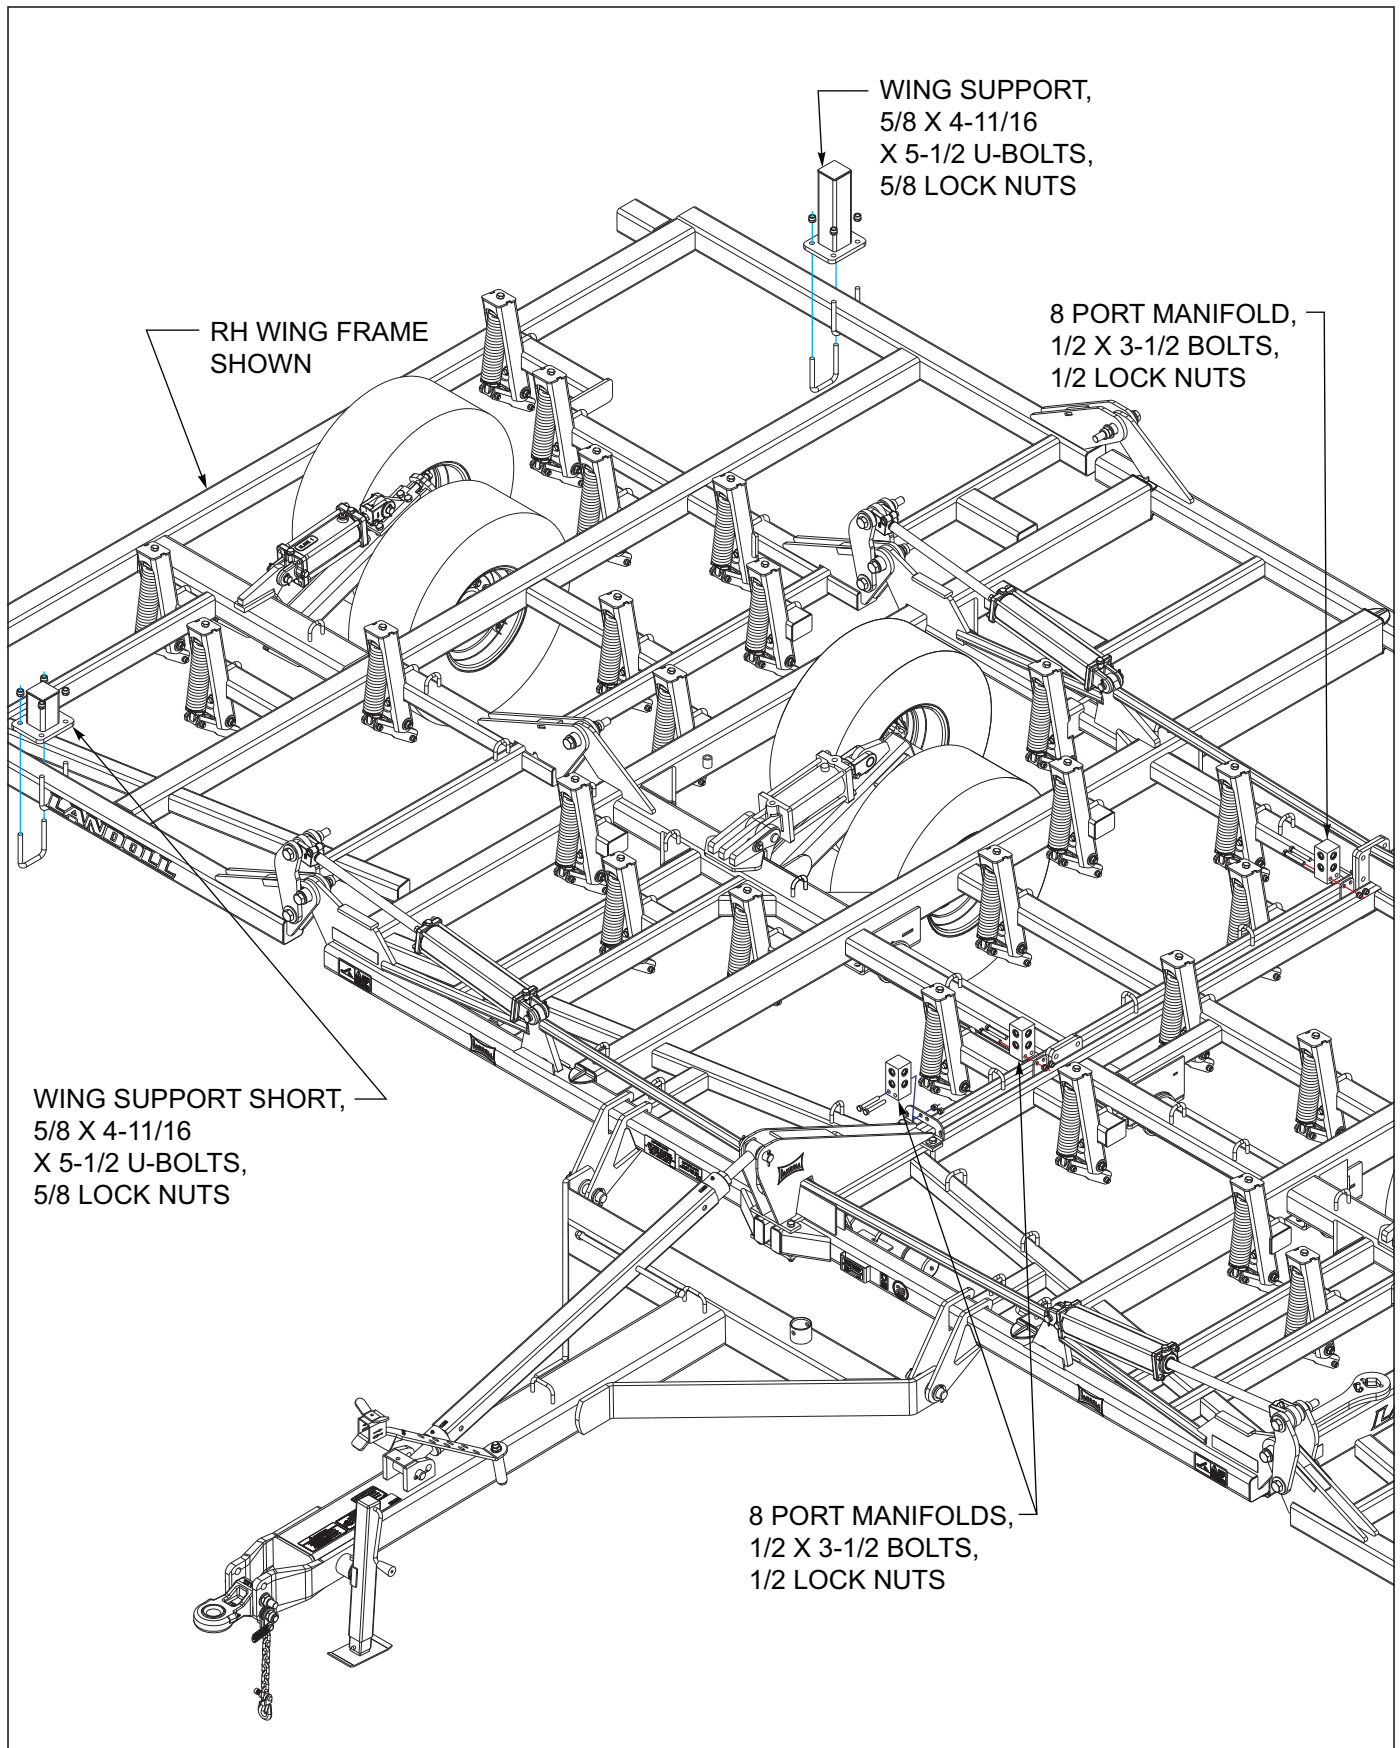
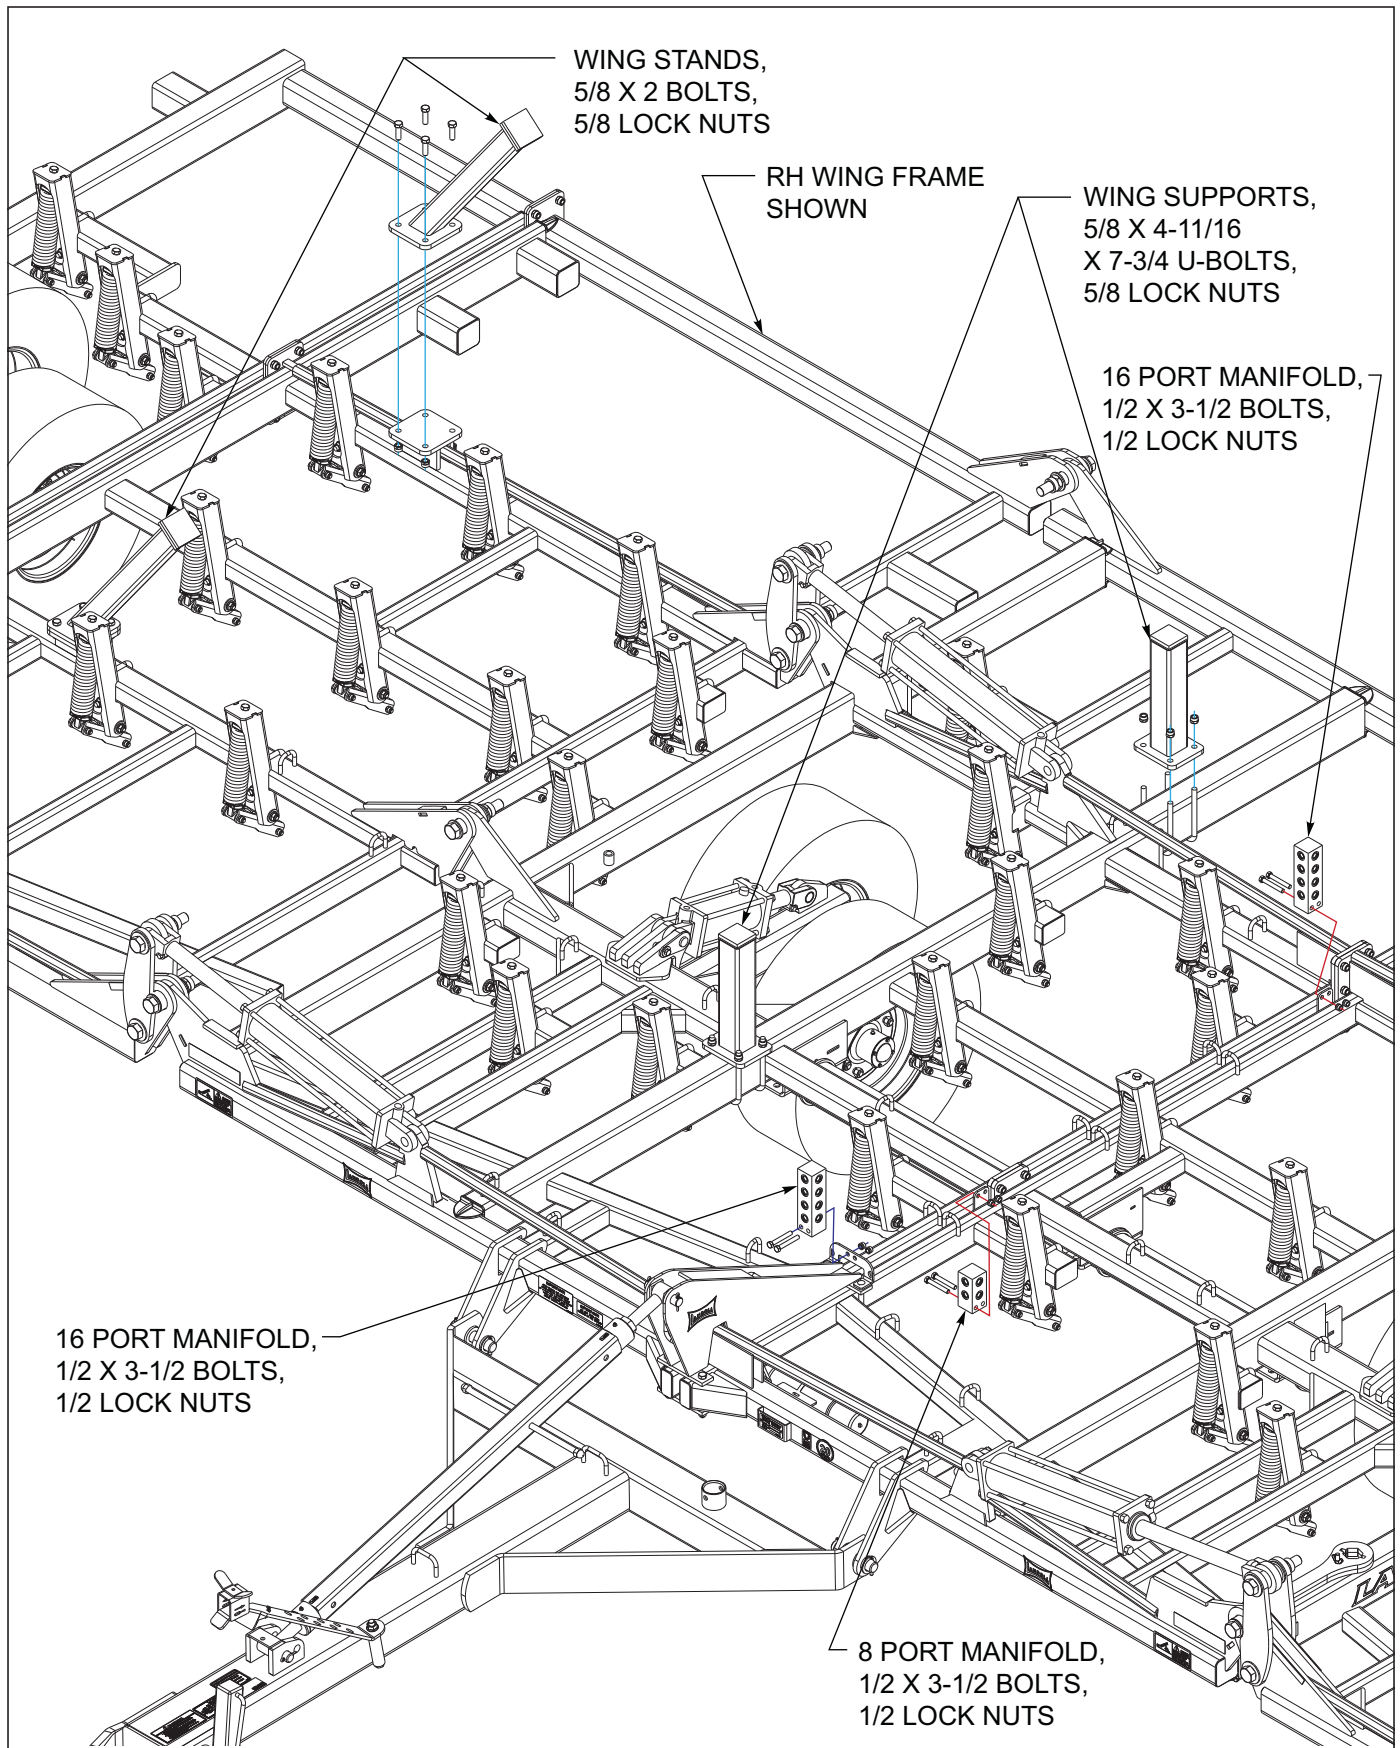

Figure 3-7: Wing Support Assembly 30'
Figure 3-9: Wing Support Assembly 40'
1. **See Figure 3-7** for 30' models, assemble the wing supports to the RH and LH wing frames using 5/8 x 4-11/16 x 5-1/2 u-bolts and 5/8 lock nuts (**See “Wing Supports Placement 30’ RH” on page 3-14.**).
3. **See Figure 3-9** for 40' models, assemble the wing supports to the RH center frame using 5/8 x 4-11/16 x 7-3/4 u-bolts and 5/8 lock nuts and to the RH wing frame using 5/8 x 2 bolts and 5/8 lock nuts (**See “Wing Supports Placement 40’ RH” on page 3-16.**).
4. Install the 8 or 16 port manifolds to center frame using 1/2 x 3-1/2 bolts and 1/2 lock nuts. **See Figure 3-7** (877-30' model), **See Figures 3-2** (877-35' model), **See Figures 3-9** (877-40')
4. Install the 8 port manifold to front 2 hole plate of center frame using 1/2 x 3-1/2 bolts and 1/2 lock nuts *See Figures 3-7* through *3-9*.